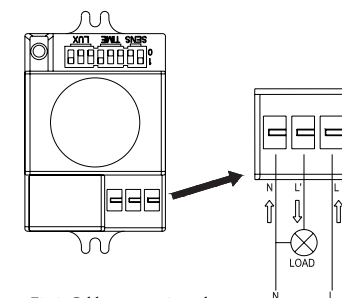

Fig.2. Cables connection scheme
3. Connect the power supply and circuit to the sensor - as on the attached cable connection scheme (Fig. 2).